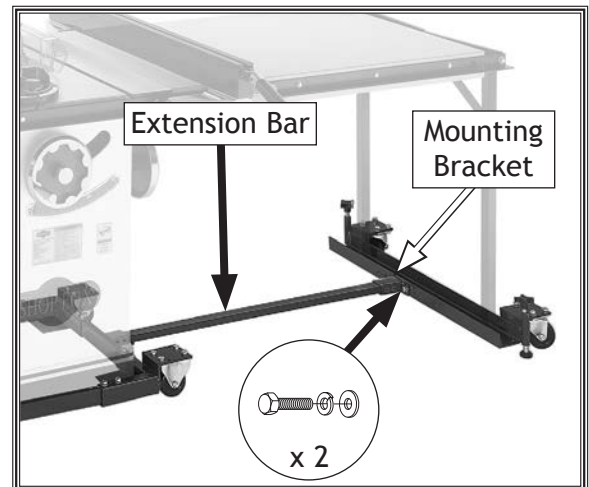

Figure 8. Extension bar attached.
11. Lower extension bar and align mounting bracket with threaded holes on side of support channel, as shown in **Figure 8**.
12. Secure mounting bracket to support channel using (2) M8-1.25 x 16 hex bolts, 8mm lock washers, and 8mm flat washers (see **Figure 8**).